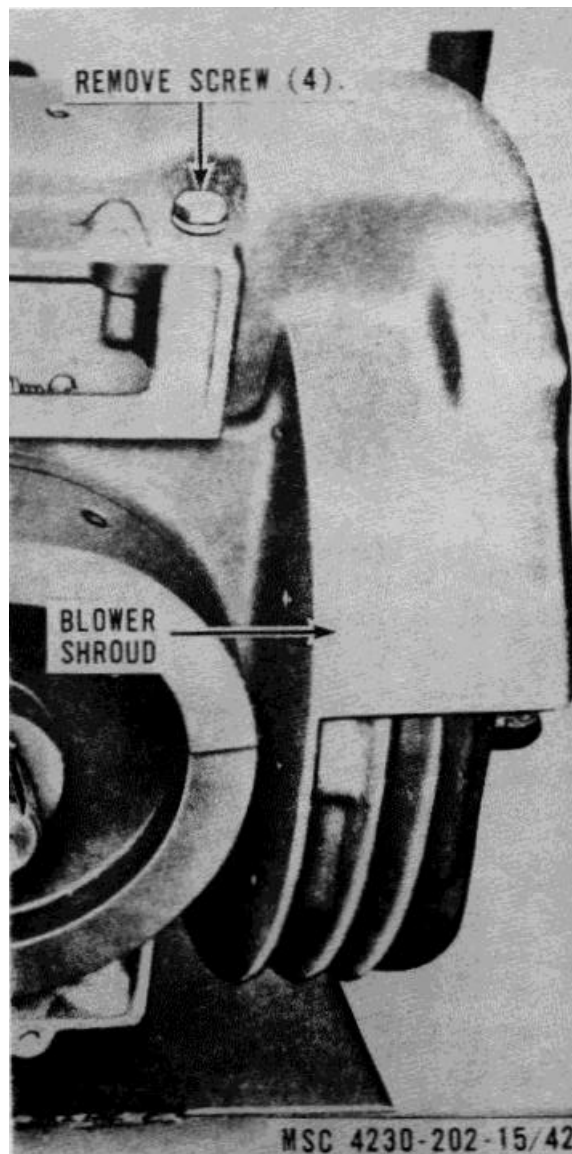

Figure 3-35. Blower shroud, removal and installation
- (1) Remove the blower scroll and screen (para 3-55).
- (2) Remove the manifold, clamps, bracket, tubing and connectors (para 3-54).
- (3) Refer to figure 3-35 and remove the blower shroud.
- (1) Refer to figure 3-35 and install the blower shroud.